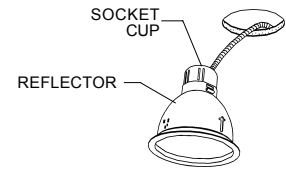

FIG. 4
2. Snap the socket cup on the reflector. (Fig. 4)
1. Remove the appropriate "Pry-out plug". (Fig.4)